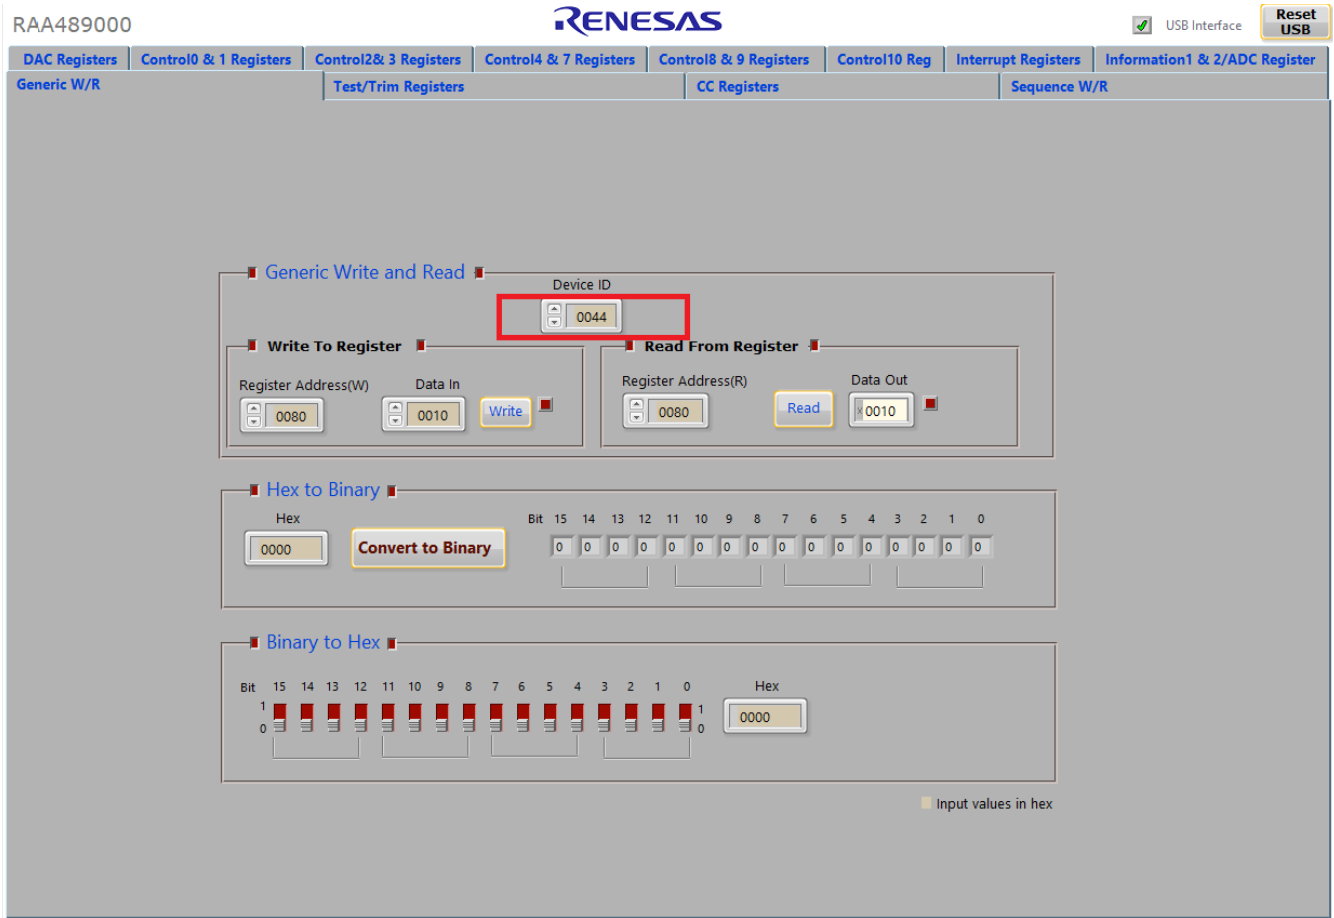

Figure 11. Configuring RAA489000 Through TCPC
4. Open the RAA489000 GUI. Select the **Generic W/R** tab and set **Device ID** as 0x0044, see Figure 11.